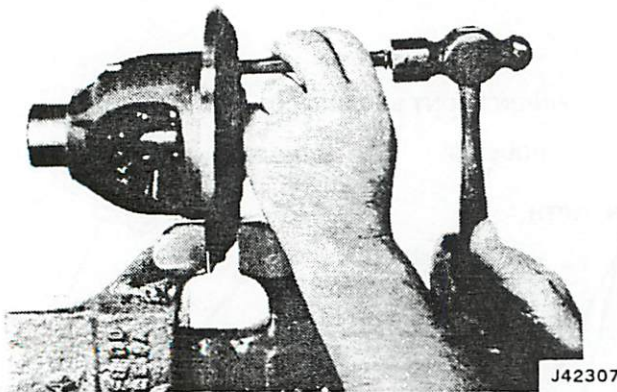

Fig. 2F-48 Pinion Mate Shaft Lockpin Removal
(12) Mount dial indicator on axle housing (fig. 2F-47). Zero indicator and be sure indicator stylus contacts one side of opening in housing.
(13) Spread housing no more than 0.020 inch (0.50 mm) using Tool J-25102. Measure amount housing is spread using dial indicator mounted previously.
(14) When housing has been spread 0.020 inch (0.50 mm), remove dial indicator.
(15) Remove differential bearing caps. Tag caps for assembly reference.
(16) Remove differential assembly using pry bars. Position pry bars under ring gear bolt head and under differential case.
(17) Remove and discard ring gear attaching bolts.
(18) Remove ring gear from differential case using brass drift and hammer. Do not attempt to wedge gear off case as case will be damaged in process.